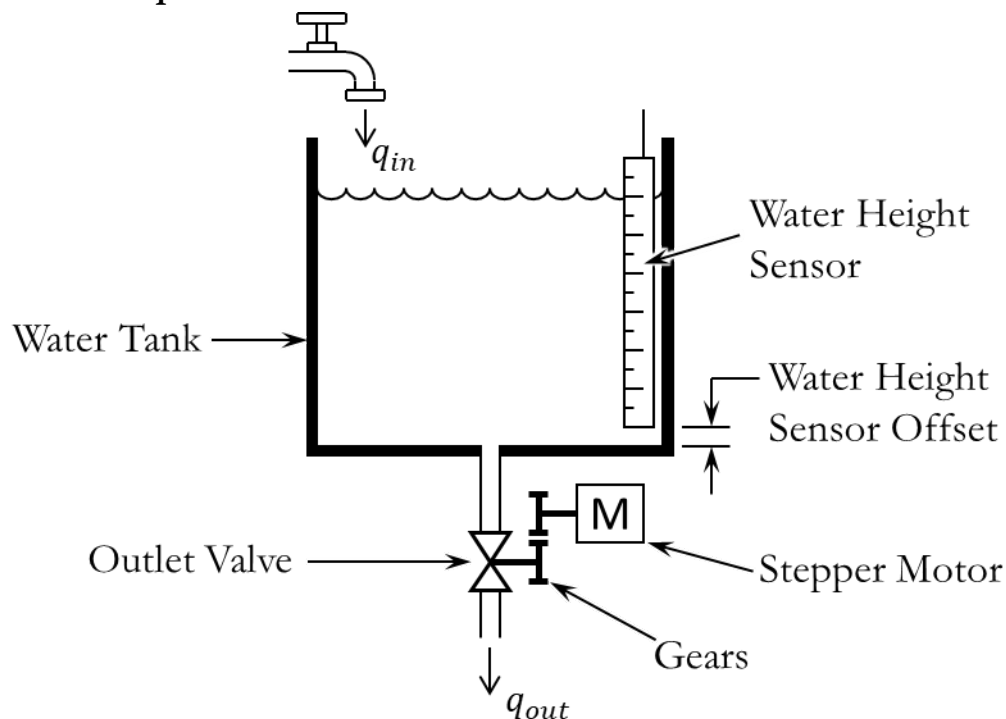

Figure 1: Mixing tank schematic
- a. Note: the output of the water height sensor is different than the real-world water height because of the height sensor offset (see Figure 1)